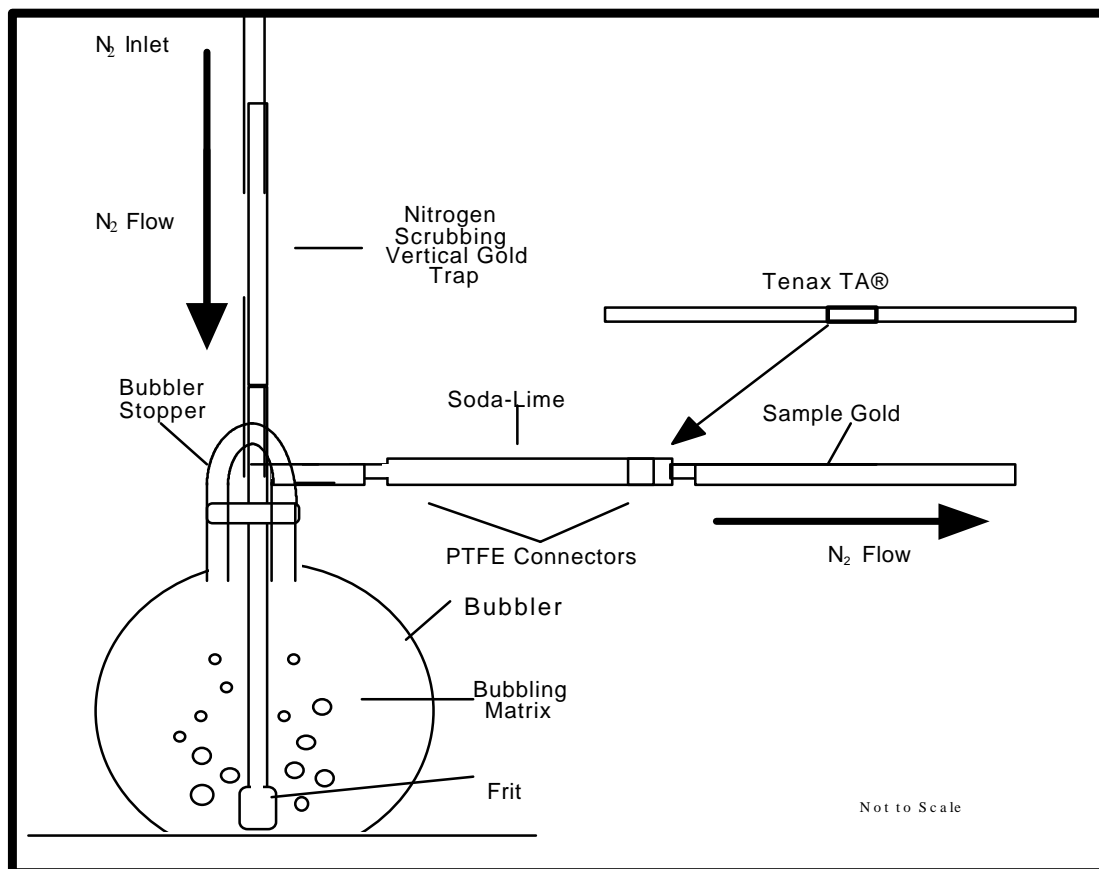

Figure 4. Total Mercury Purging and Trapping System.
- 8.3.4 After removing the end-plugs, attach the gold traps to the vertical inlets on the bubbler stoppers. Plug the N2 lines into the gold traps. See Figure 4.